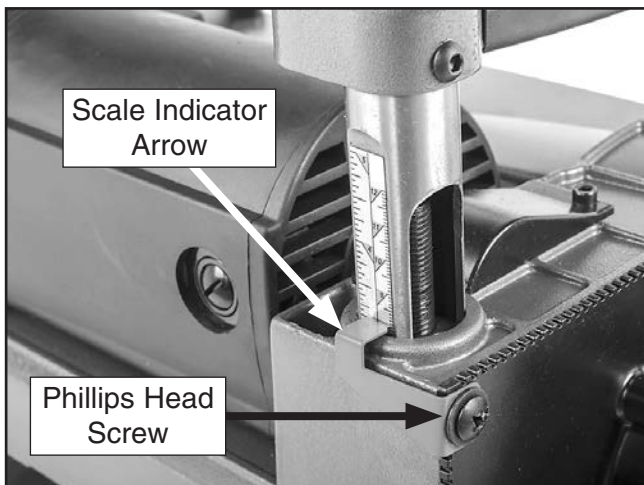

Figure 35. Elevation scale components used to calibrate thickness reading.
7. Loosen motor tensioner bolt (see **Figure 35**) to release tension on V-belt.
3. If there is a discrepancy between board thickness and reading on elevation scale, loosen the M6-1 x 12 Phillips head screw shown in **Figure 35**, adjust position of red pointer to indicate correct thickness, then re-tighten screw.